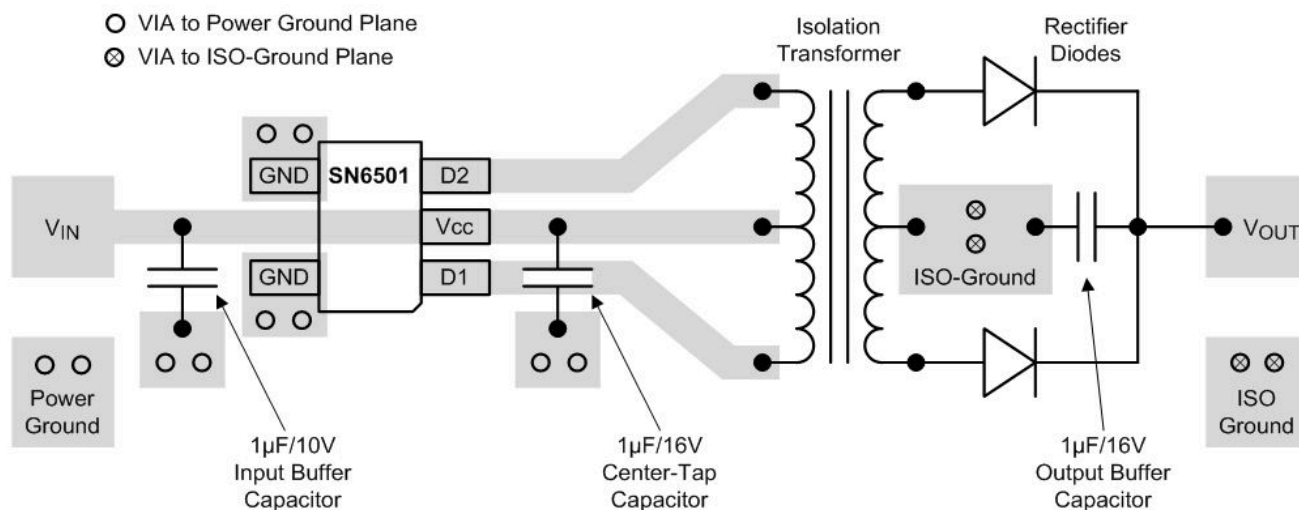

Figure 11-1. Layout Example of a 2-Layer Board (SN6501)
- The optimum placement is closest to the V_{IN} and GND pins at the board entrance to minimize the loop area formed by the bypass-capacitor connection, the V_{IN} terminal, and the GND pin. See Figure 11-1 for a PCB layout example.